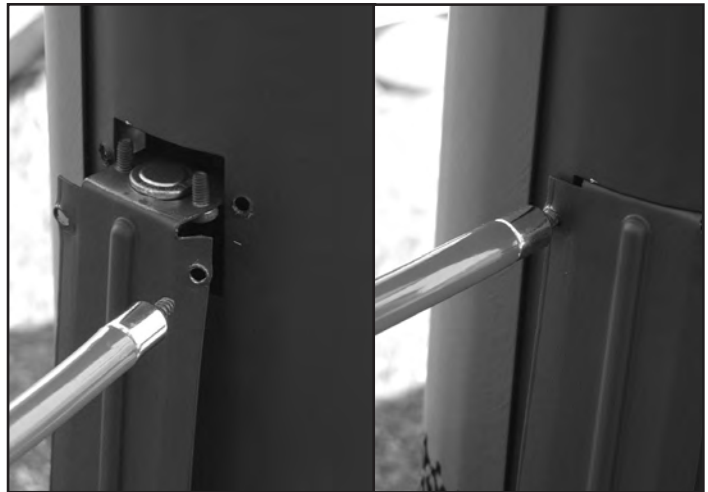

Figure 35: Spill switch installation.
3. Remove the four mounting screws holding the spill switch bracket and remove the bracket (see Figure 35).